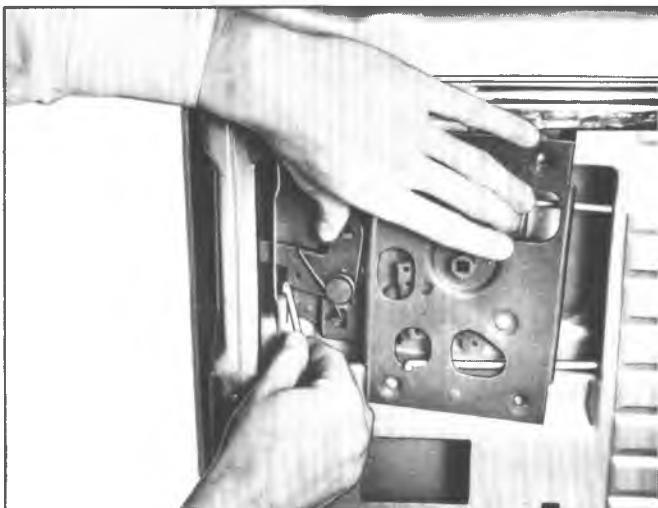

Fig. 2D-122-Disconnecting Lower Latch Rod from Latch
3. Disconnect rear latch rods from front latch assembly, shown in figure 2D-121.
4. Remove rear latch attaching screws. See figure 2D-123.